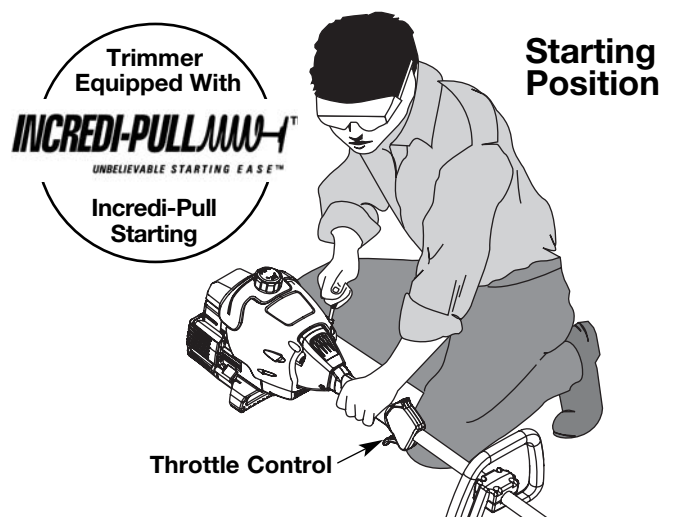

Fig. 5
WARNING: Avoid accidental starting. Make sure you are in the starting position when pulling the starter rope (Fig. 5). To avoid serious injury, the operator and unit must be in a stable position while starting.
5. Crouch in the starting position and **do not squeeze the throttle control** (Fig. 5). Pull the starter rope out with a **controlled and steady motion** up to 10 times. Repeat until the engine starts.